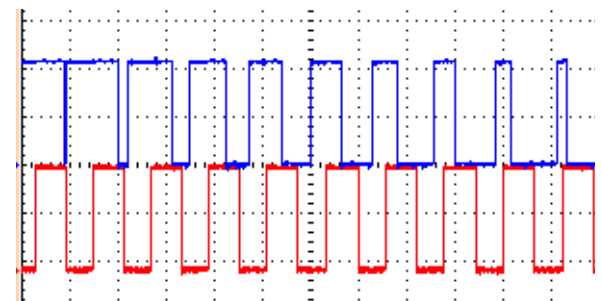

Figure 12b: Phase-shifting Half-R
- The width of the Half-R gate is always 50% of the envelope time. Changing the Skew will change the phase of the Half-R output, but not the width. See *Figure 12b*.